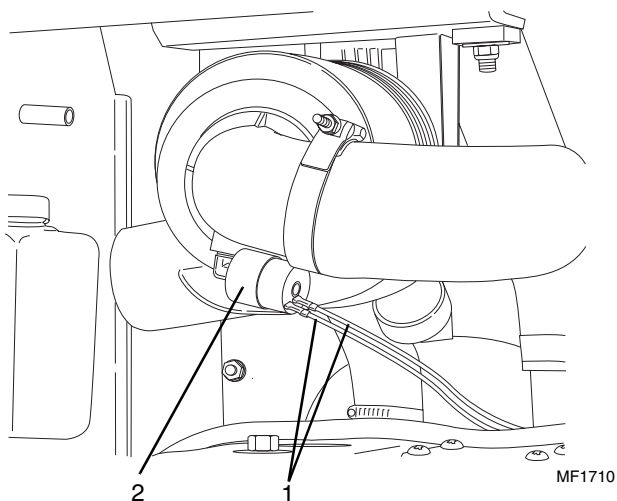

Figure 10-98 Air Restriction Indicator Switch
30. Connect red/blue wire #28 and black wire #2H (Fig. 10-98, 1) to the air cleaner restriction switch (2).